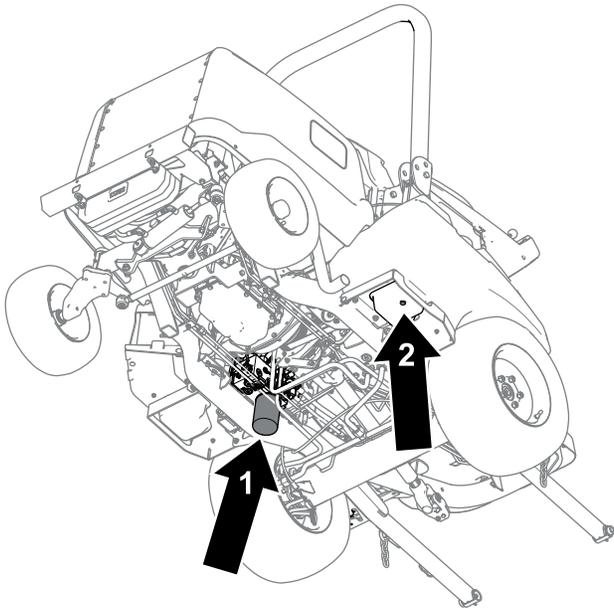

Figure 86
4. Remove the drain plug (Figure 86) from the bottom of the tank and let the hydraulic fluid flow into the pan.
6. Place a drain pan under the filter (Figure 86), remove the filter, and let any remaining oil drain into the pan.